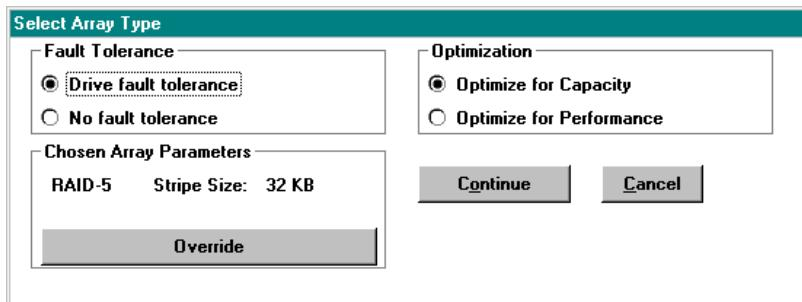

Figure 3-10. Select Array Type Window
- 1 Select the Create Array Group button. The Select Array Type window appears, as shown in Figure 3-10.